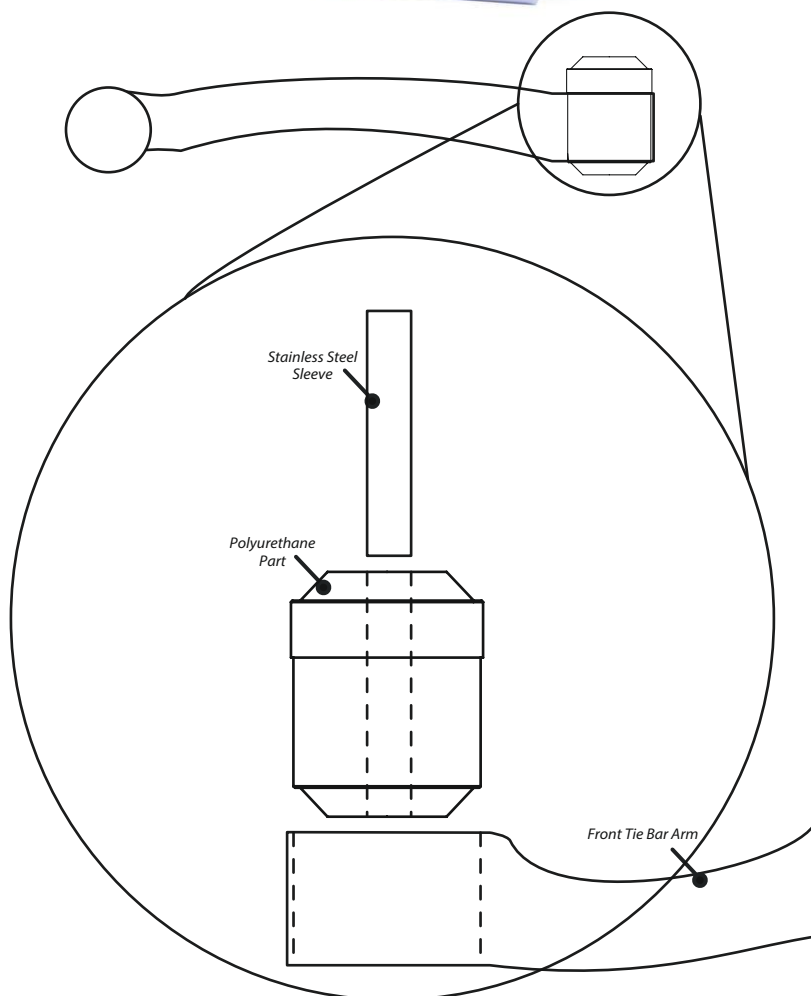

Figure 1 - exploded diagram showing how the polyurethane part will fit inside the arm
3. Press fit the bush with the metal outer shell inside the bore of the arm, with the bigger diameter of the metal outer shell sitting flush against the machined side of the arm (Figure 1).